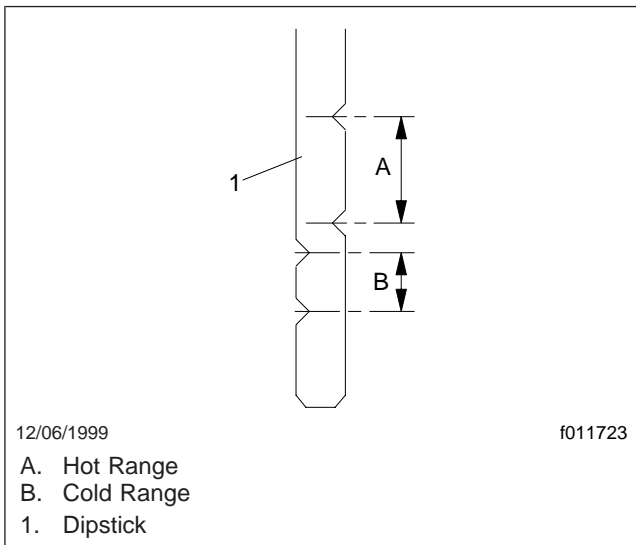

Fig. 17, ATF Dipstick, Aisin Transmission
- 12.5 If the ATF temperature is between 158 to 176°F (70 to 80°C), the fluid should measure in the HOT range. See Fig. 17.